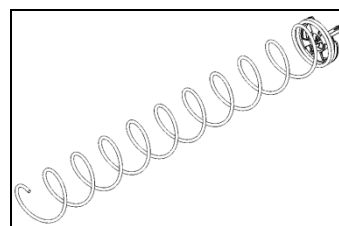

Figure 3
3. Remove spiral and hub out of the selection (See Fig. 3)